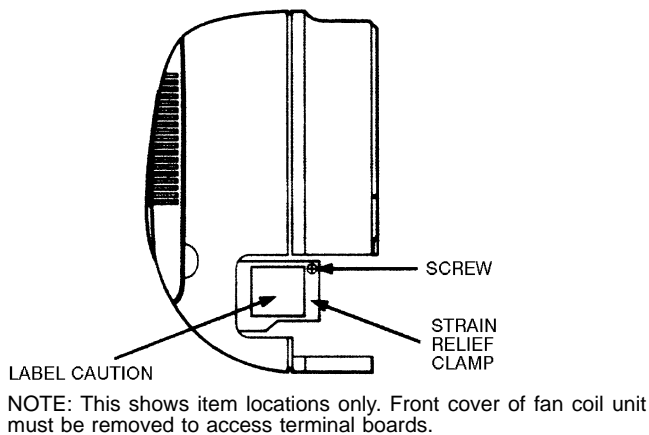
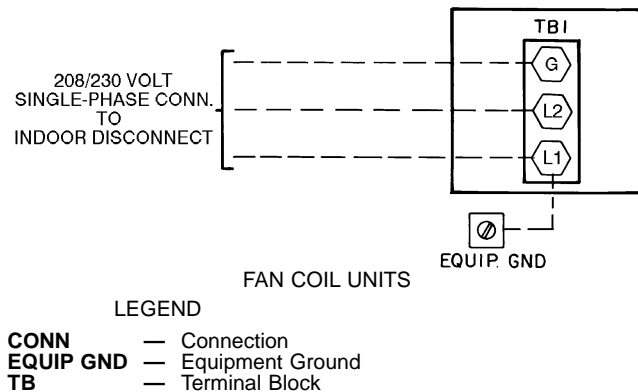

Fig. 13 — Fan Coil Unit Wiring Preparation
Fig. 14 — Line Power Connections
2. Remove control box strain relief clamp (see Fig. 13).
5. Route factory-supplied line power leads (see Fig. 14) from field-supplied, indoor unit disconnect to the fan coil unit TB1 (see Fig. 14 and 15). Run wire through the strain relief on the control box (see Fig. 13). When routing wire in the fan coil unit, keep the wire away from refrigerant and condensate piping and any sharp edges on the unit.